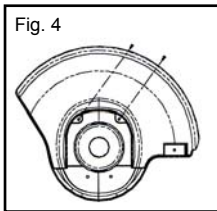

Fig. 4
2. Slide the cutting guard into place and then secure it with the two (2) screws provided. (Fig. 4)